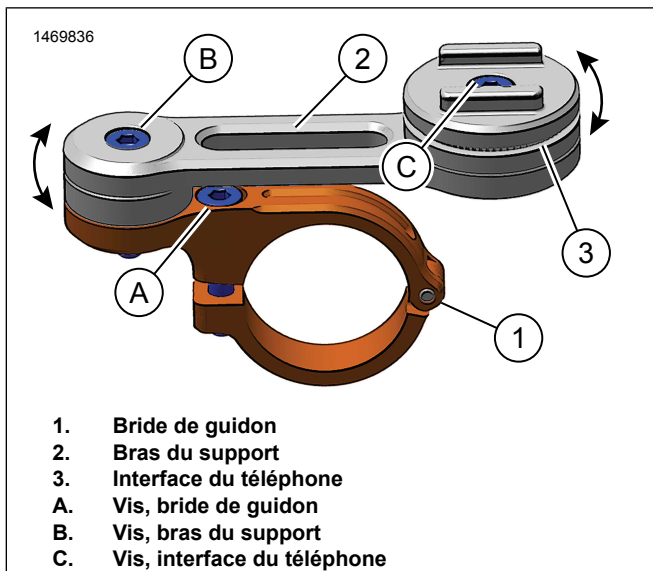

Figure 3. Points pivots
2. Figure 3 Desserrer la vis (B).
4. Serrer la vis (B).
5. Figure 3 Desserrer la vis (C).
7. Serrer la vis (C).